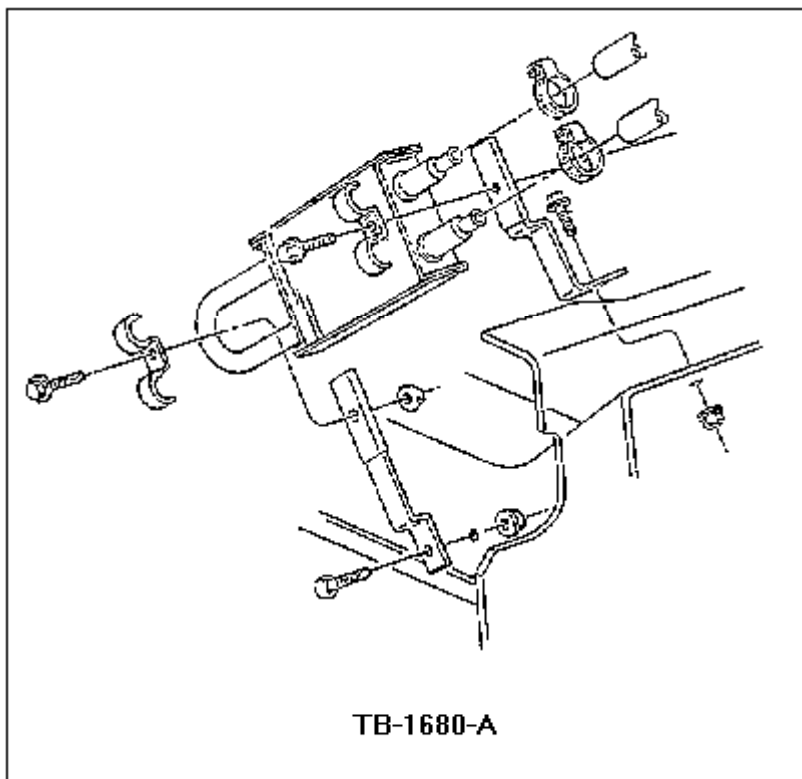

Figure 1 - Article 90-11-13
4. Install a new power steering cooler assembly (FOHZ-3D746-D). The new cooler does not have fins on the right hand mounting bracket side, Figure 1.